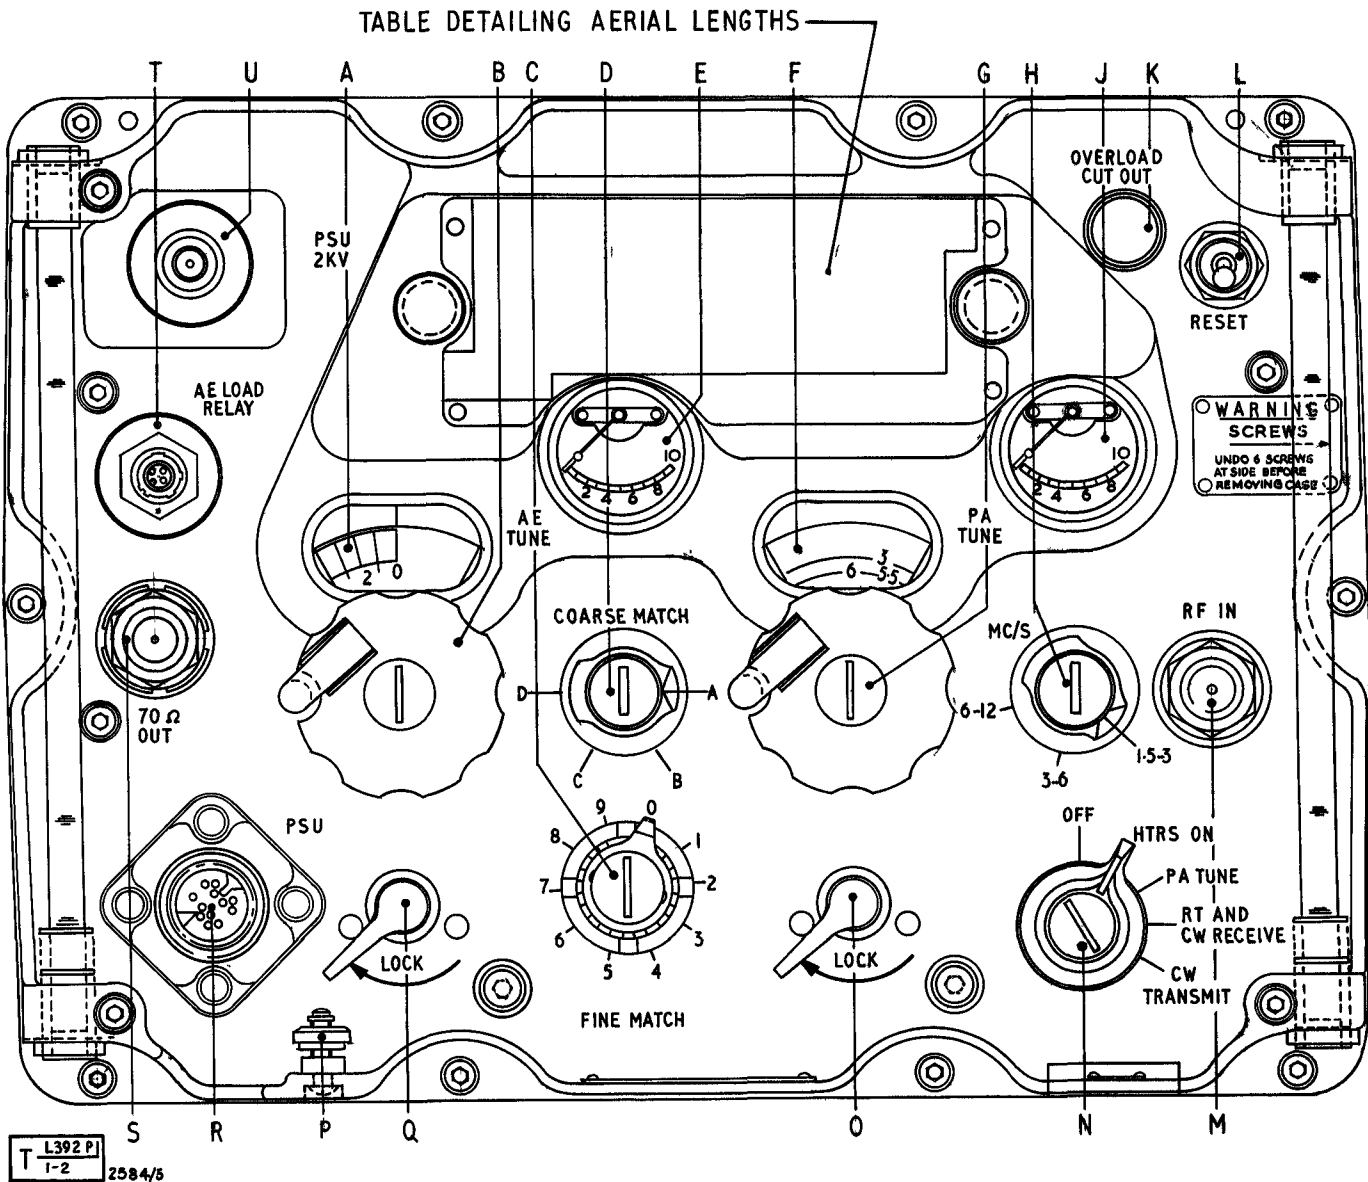

Fig 2 - Layout of front panel and controls
24. The amplifier front panel controls are shown in Fig 2 and details are given in Table 1.